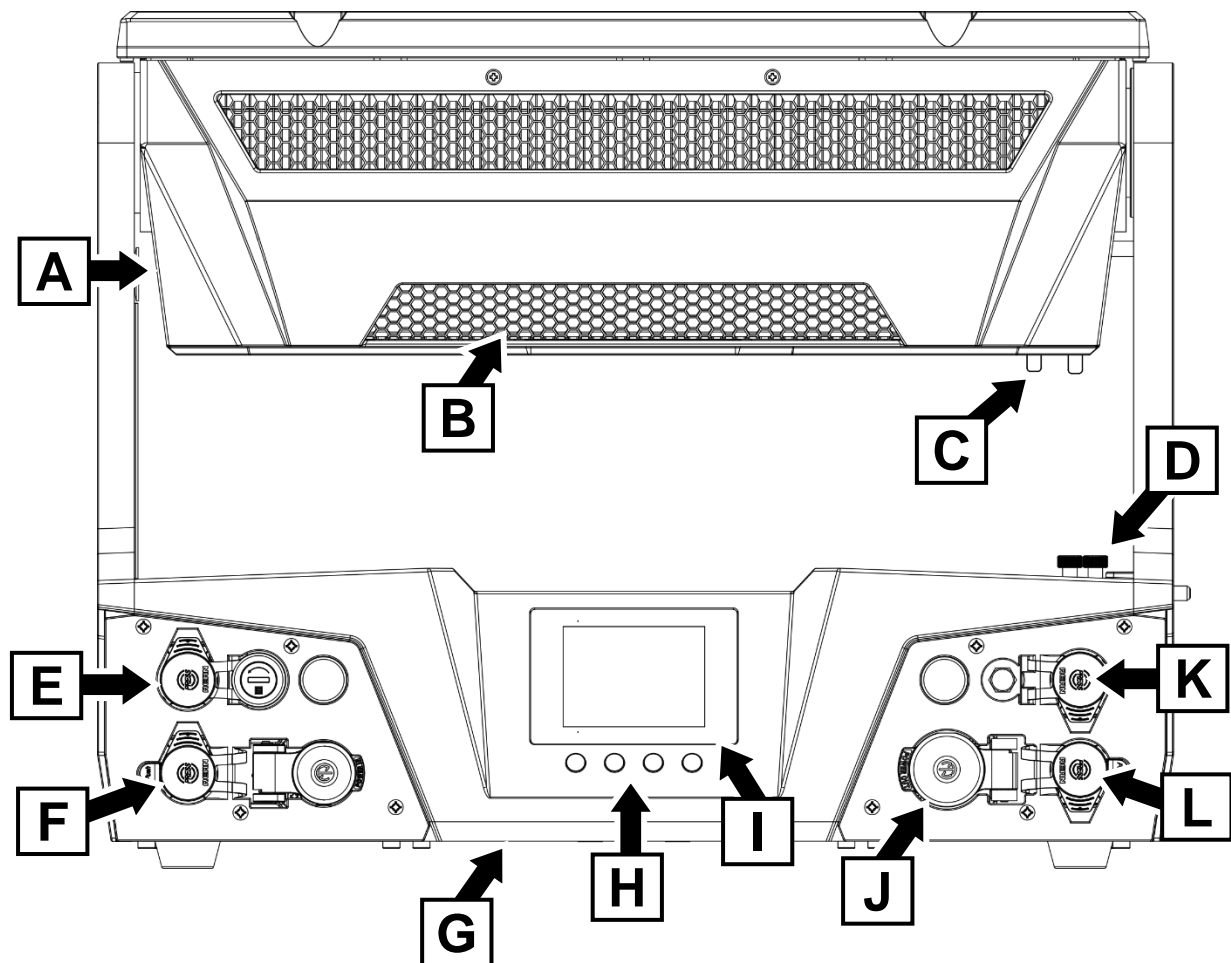

Figure 2. JDC2 IP overview
3. See Figure 2 on page 14. Open one of the retractable safety cable attachment eyelets on the base of the unit marked **G** in Figure 2 and fasten the safety cable to it.